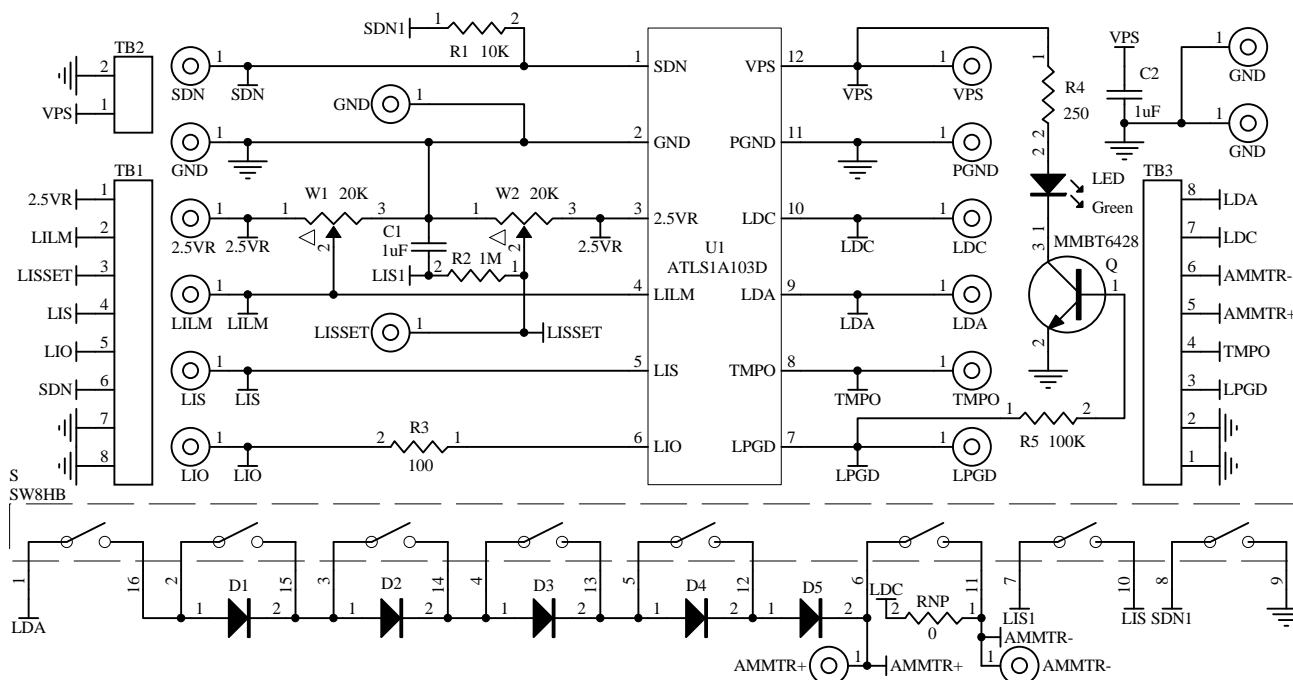

Figure 7. Schematic of ATLS1A103DEV1.0
The schematic is shown in Figure 7 below.
- B. Turn the switch S1F to its lower off position, thus the output current goes through the ammeter and can be measured by reading Ammeter's value.; when the switch S1F is placed in the upper on position, the ampere meter is shorted, thus, it does not measure the output current, see the schematic shown in Figure 7.
6. Test the controller with the “dummy laser”. The 5 diodes on the board, D1 to D5, can form a “dummy laser” to act as the laser diode in the place of a real laser so that in case there is a problem in the circuit, the expensive laser would not be damaged, see schematic in Figure 7. Turn the switch S1A to the on position (upper), to connect the “dummy laser” to the controller. Turning switches S1B, S1C, S1D and S1E, up and down will increase (turning down the switches) and decrease (turning up the switches) the forward voltage of the “dummy laser” which can be measured by a volt meter between the LDA and the ground. Each diode can increase or decrease the output forward voltage by about 0.7V when the output current is 1A. **Warning: when output 1A current, the diodes may get very hot, don't put your fingers on them.** The switch bank and their corresponding diodes are shown in the table below. The diode D5 is always activated so that the total forward voltage range is from 0.7V to  $0.7V + 0.7 \times 4 = 3.5V$ . Please be aware of this fact: when the output voltage is low by shorting circuit all the diodes, the controller will need to consume a lot of power and may get too hot that the internal temperature protection circuit shut off the controller automatically. When this happens, wait for a few seconds, let the controller cool down, the controller will restart by itself again after the temperature is lowered to certain level. This is the way to calculate the power consumption of the controller: